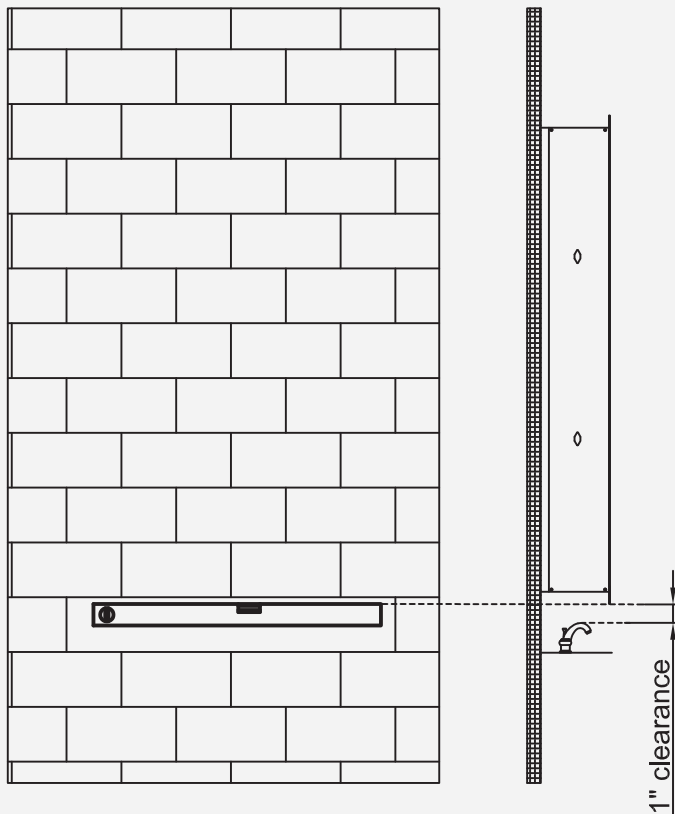

Fig 6
1. Establish precise height and draw a level horizontal line (Fig 6). IMPORTANT: Detect medicine cabinet at precise height. Make sure there is at least 1" of clearance above any obstructions.